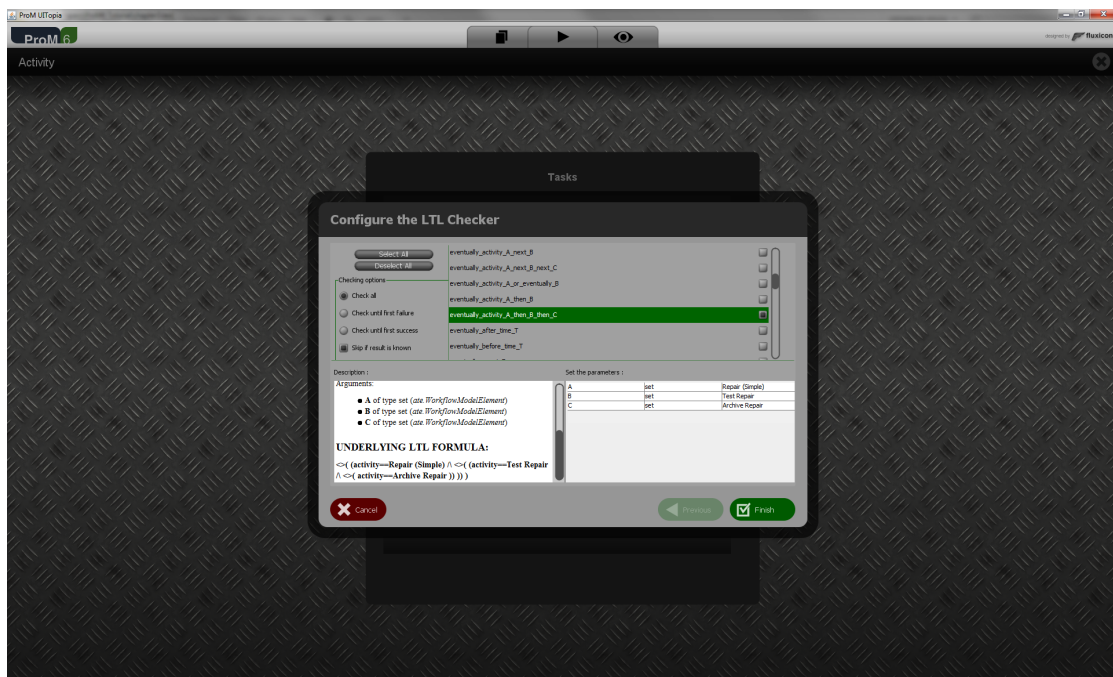

Figure 15: The “LTL Checker” plug-in.
You should get a screen like the one in Figure 15.
4. Select the formula “eventually_activity_A.then_B.then_C” (see also Figure 15).
5. Give as values (see also Figure 15):